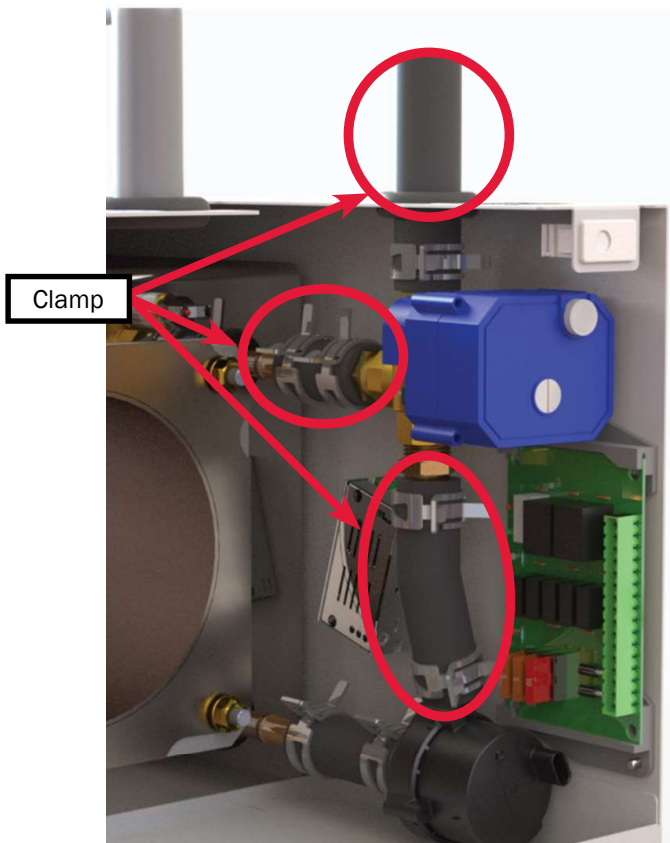

Figure 29
2. Use clamp hose pliers to pinch tubing surrounding the three-way valve as indicated in Figure 29.